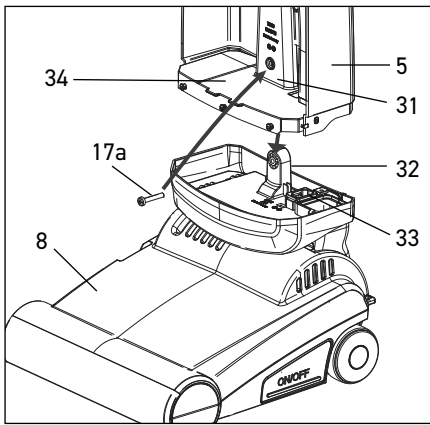
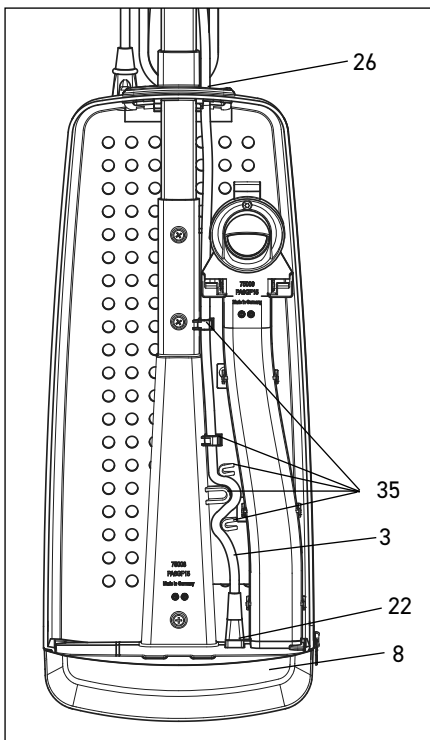

Figure 3
Figure 4
Step 3 (figure 3): Place the power head (8) on the floor. Place the bag housing (5) on the power head so that the connecting piece on the power head (32) fits into the corresponding opening in the bottom of the bag housing (31). Unzip the front cover of the bag housing completely. Press down on the bottom of the bag housing (34) with the flat of your hand and gently push into place. Alternately, use the handle assembly to align the upper and lower parts of the machine. When both parts fit correctly, secure the connection of the connecting piece (32) and the opening in the bag housing (31) with the remaining M5x30 screw (17a) from the screw set. Use a phillips-head screwdriver (not included). Adjust the ends of the zipper to fit into the bottom part of the housing. **Note: The bag housing cover cannot be removed completely! It has been omitted in the illustrations to improve clarity.**
Step 4 (figure 4): Plug the cable plug (22) into the outlet in the power head (#33, figure 3). Route the cable as shown from bottom to top using fixing points (35). All remaining cable length will then move to the top through the shaft guide. Close the shaft guide flap (26). Continue threading the cable up into the strain relief (see step 5). **Note: The bag housing cover cannot be removed completely! It has been omitted in the illustrations to improve clarity.**
3. Internal plug is unconnected or loose.	3. Re-seat the plug. See page 6, figure 3.